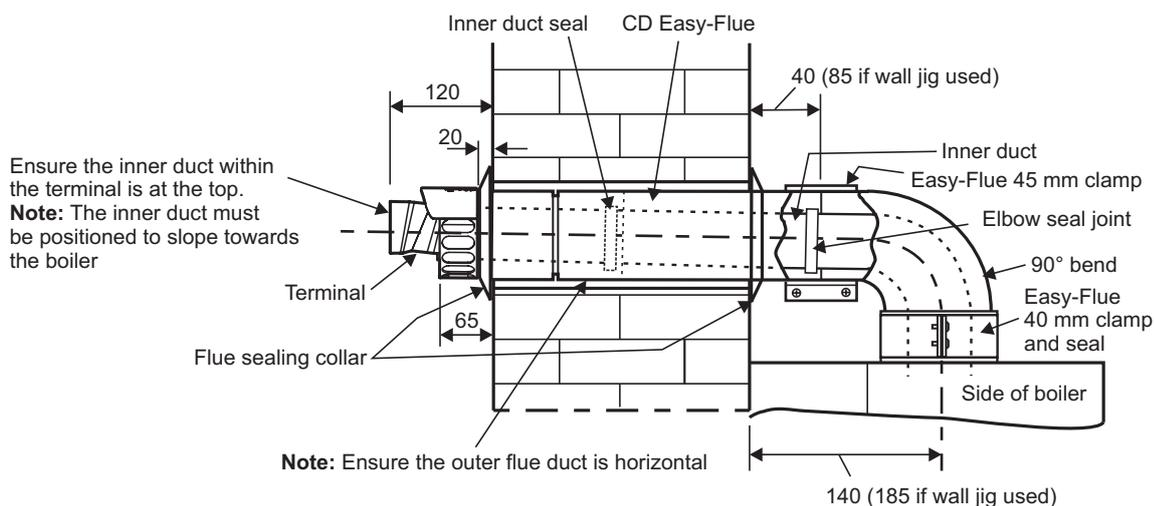

Fig. 18 - Rear flue
- Note:** Check the flue terminal protrudes 90 mm out of the wall and the inner duct of the terminal is positioned correctly (see Fig. 18).